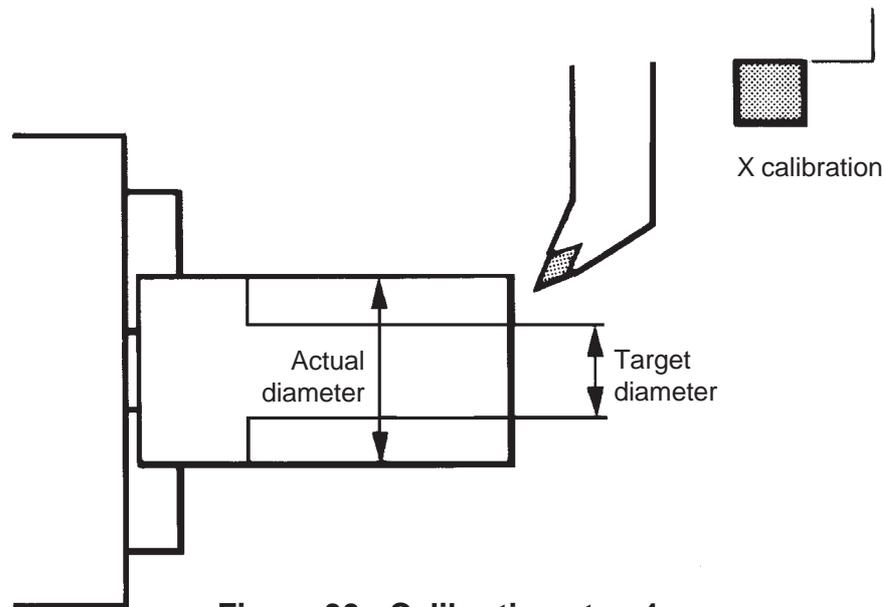

Figure 30 - Calibration step 4
Step 4 - Obtain the true tool length of the reference tool (see figure 30)